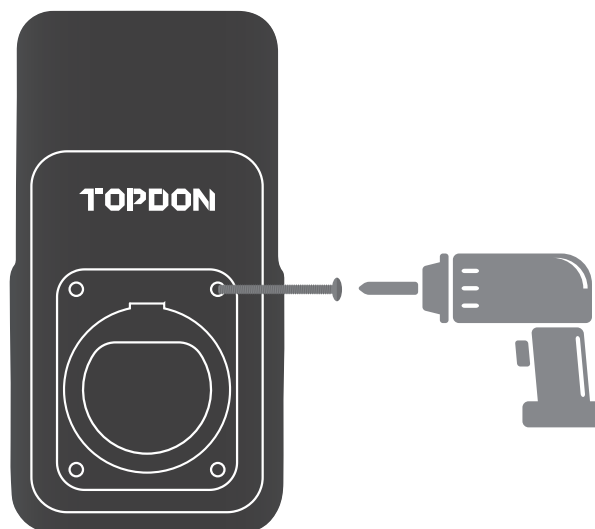

Fig. 5.6.4
5. Fix the charging dock on the wall with the expansion screw in the package. (See Fig. 5.6.4)